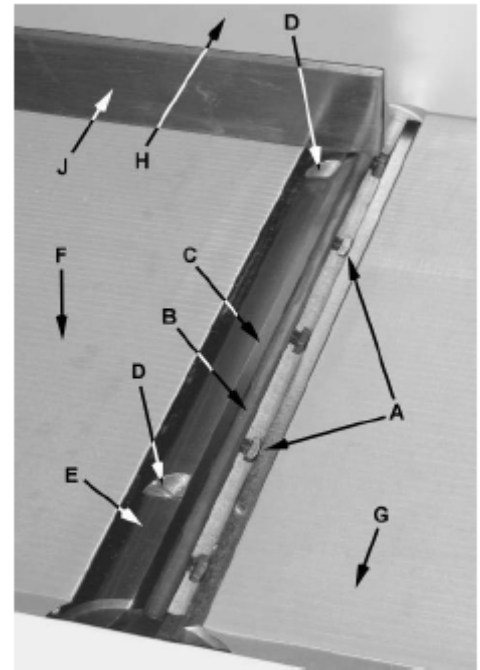
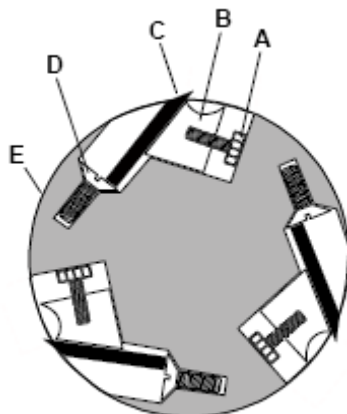

Figure 11
Figure 12
2. Remove the cutterhead guard (B, Fig. 8). Referring to Figures 11 and 12:
3. Carefully number each knife blade (C) with a magic marker to differentiate each.
4. Rotate the cutterhead (E) and determine the 12 o'clock position of knife number one. The 12 o'clock position is the highest point a blade will reach in the cutting arc (C, Fig. 12).